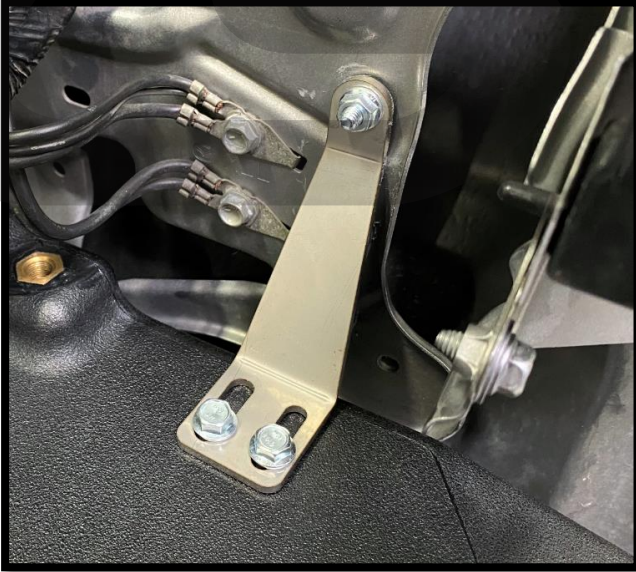

Figure 5e
- d) Begin securing the tank to the vehicle by loosely attaching the top bracket to the fender support. Use a supplied M6x1.0x16mm bolt and M6 nut threaded together hand tight so the bracket can still move around. The slotted hole to attach to is shown with **red arrow** in **Figure 5d**. This is shown completed in **Figure 5e** on the next page for reference.